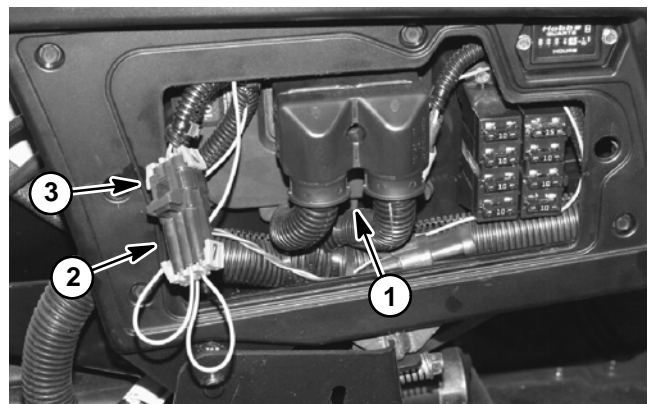

Figure 8
- The loopback connector is not connected to the machine wire harness (Fig. 8).